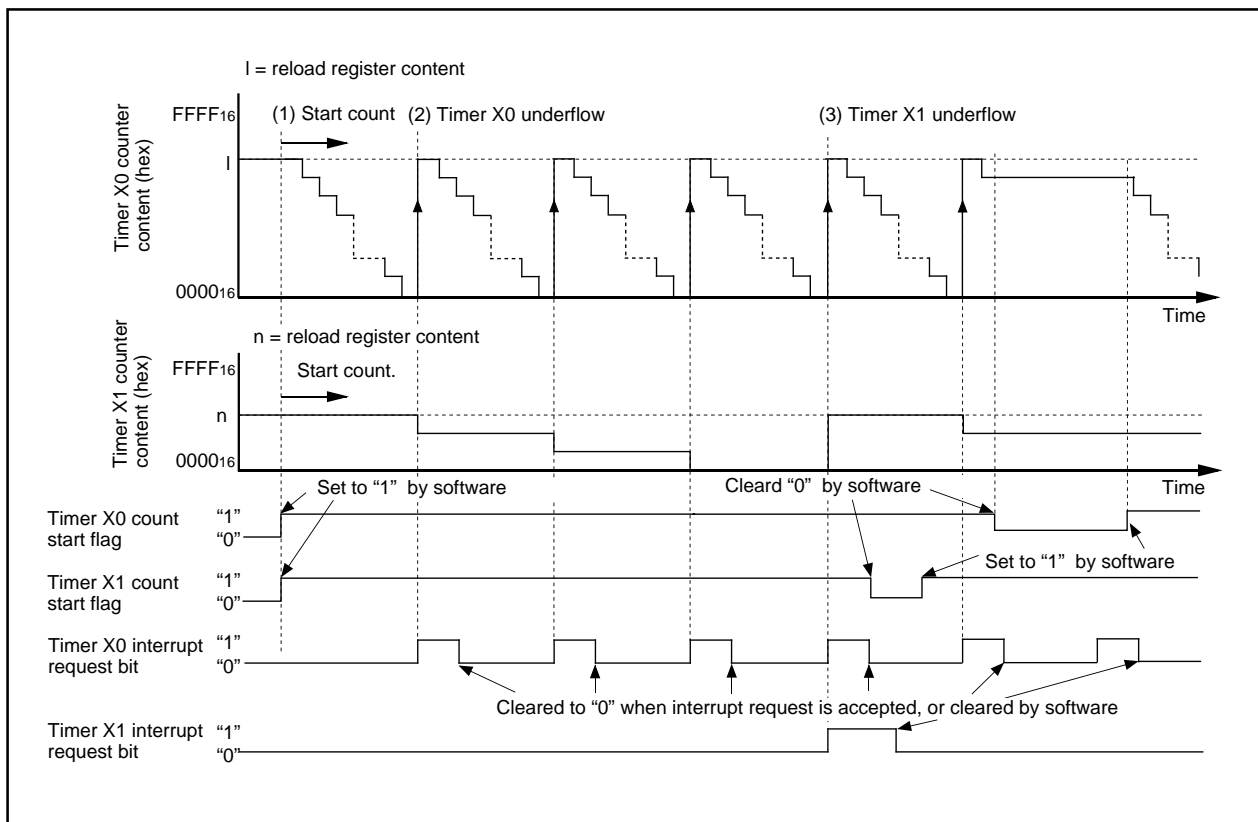

Figure 3.1.1. Operation timing of long-period timers
**Overview** In this process, Timer X0 and Timer X1 are connected to make a 16-bit timer with a 16-bit prescaler. Figure 3.1.1 shows the operation timing, Figure 3.1.2 shows the connection diagram, and Figures 3.1.3 and 3.1.4 show the set-up procedure.